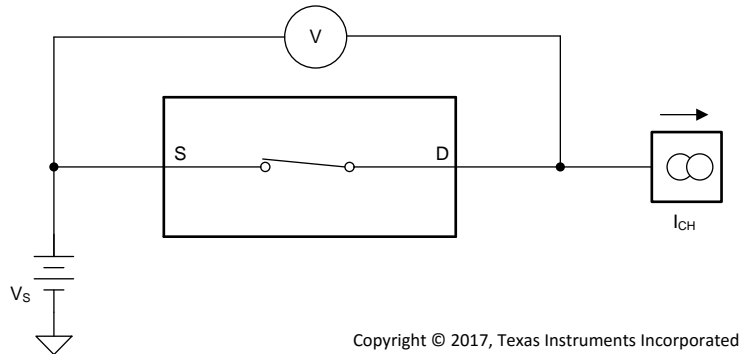

图 26. On-Resistance Measurement Setup
(1) X denotes *don't care*.
The on-resistance of the MUX50x is the ohmic resistance across the source (Sx, SxA, or SxB) and drain (D, DA, or DB) pins of the device. The on-resistance varies with input voltage and supply voltage. The symbol R_{ON} is used to denote on-resistance. The measurement setup used to measure R_{ON} is shown in 图 26. Voltage (V) and current (I_{CH}) are measured using this setup, and R_{ON} is computed as shown in 公式 1: